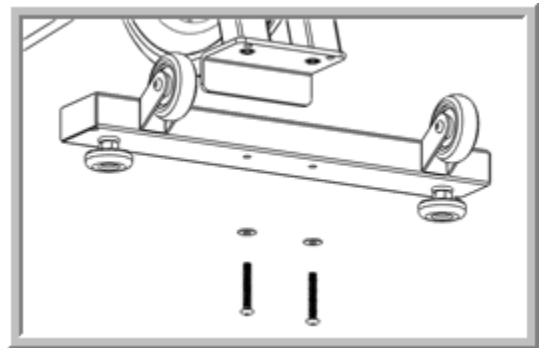

Fig. 5
5. Installing the Front Leg (Fig. 5)